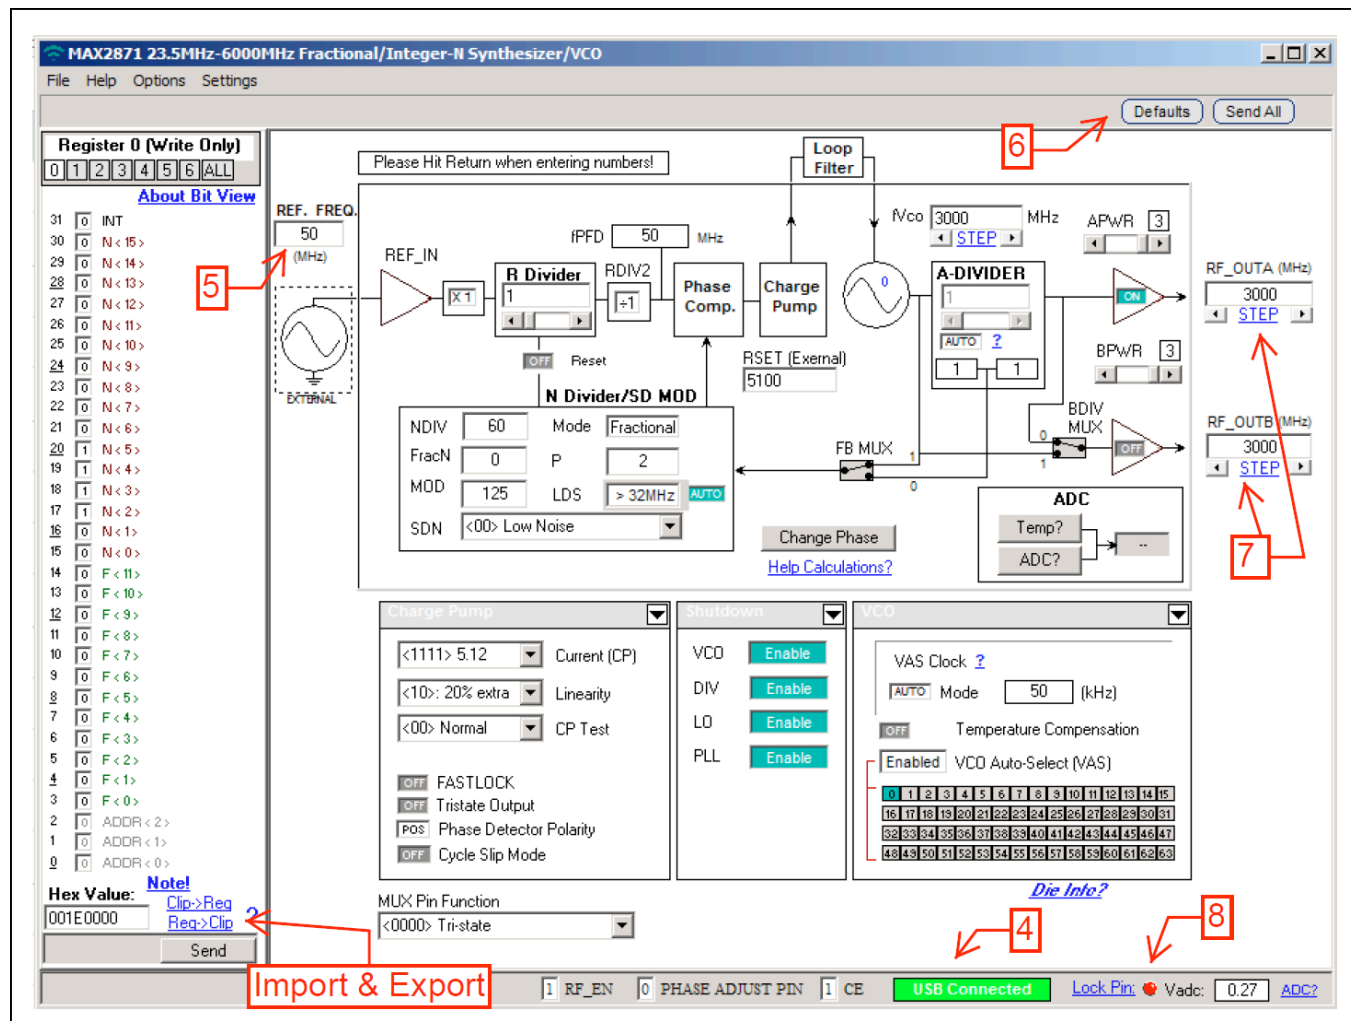

Figure 2. MAX2870/MAX2871 EV Kit Software GUI
- 3) Run the MAX287x.exe file. Choose the correct IC type (MAX2870 or MAX2871) at the front page and click the **Continue** button. The EV kit GUI appears and looks similar to Figure 2.